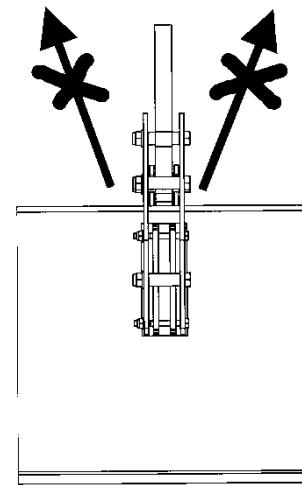

Fig. 4
**Do not load the jaws by pulling to one side and do not drag jaws along the ground (Fig. 4).